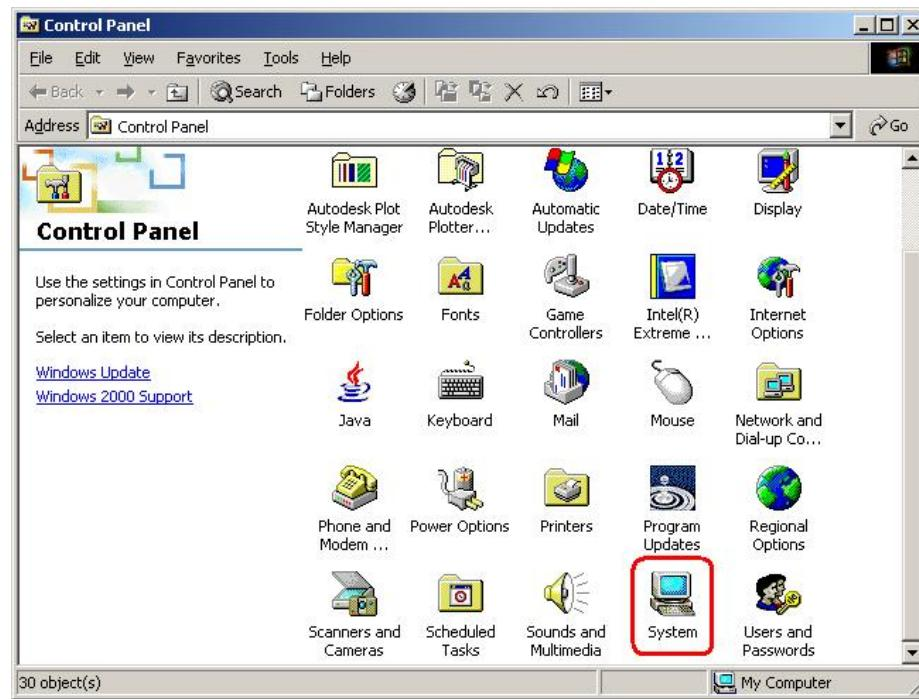

Figure 7-26: Double Click the System Icon
Step 13: Double click the **System** icon (**Figure 7-26**).